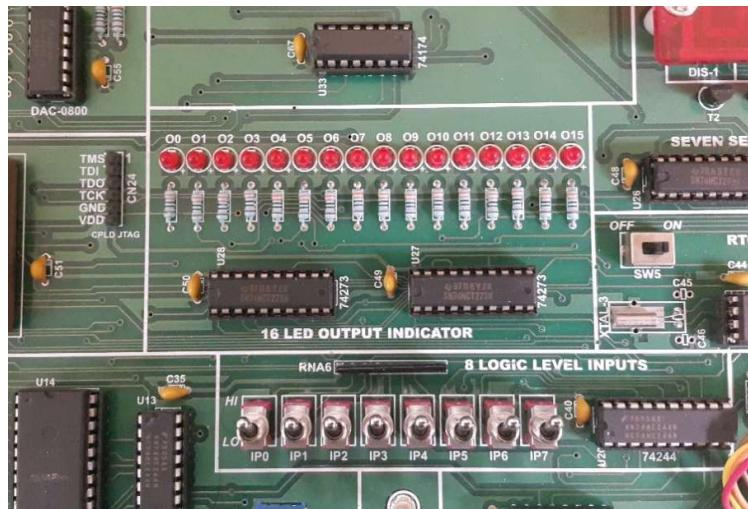

Figure 5.1: LEDs and Input Switches Associated with Memory Locations.
- a. In this experiment, we will use 8051 trainer board 8 logic level switches for input (associated with FF02H memory address) and LEDs for outputs (associated with FF00H and FF01H memory locations) as shown in Figure 5.1.